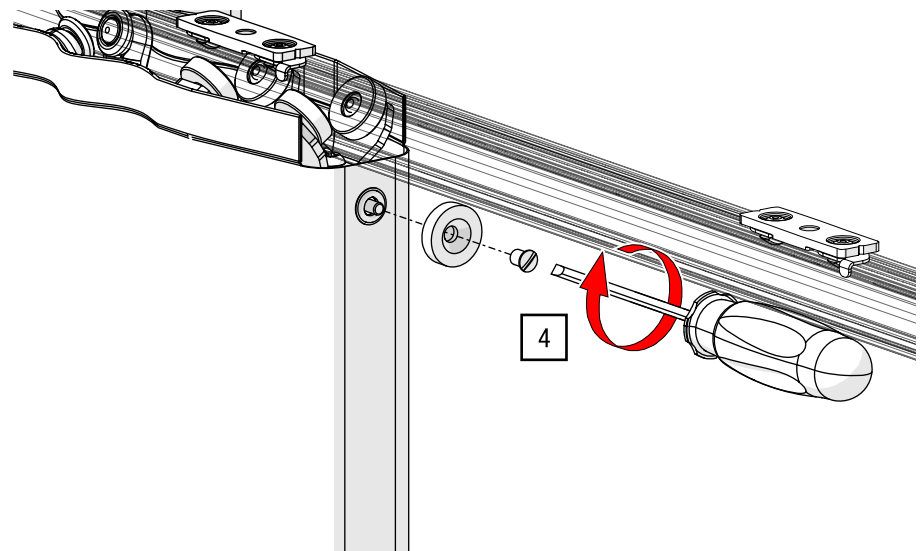

Fig. 118: Master runner – Mount magnet catch plate (2/2)
4. Screw the magnet catch plate on the opposite side to the master runner without overlap arm using a flat-head screwdriver and a torque of 11 Nm (see Fig. 118).